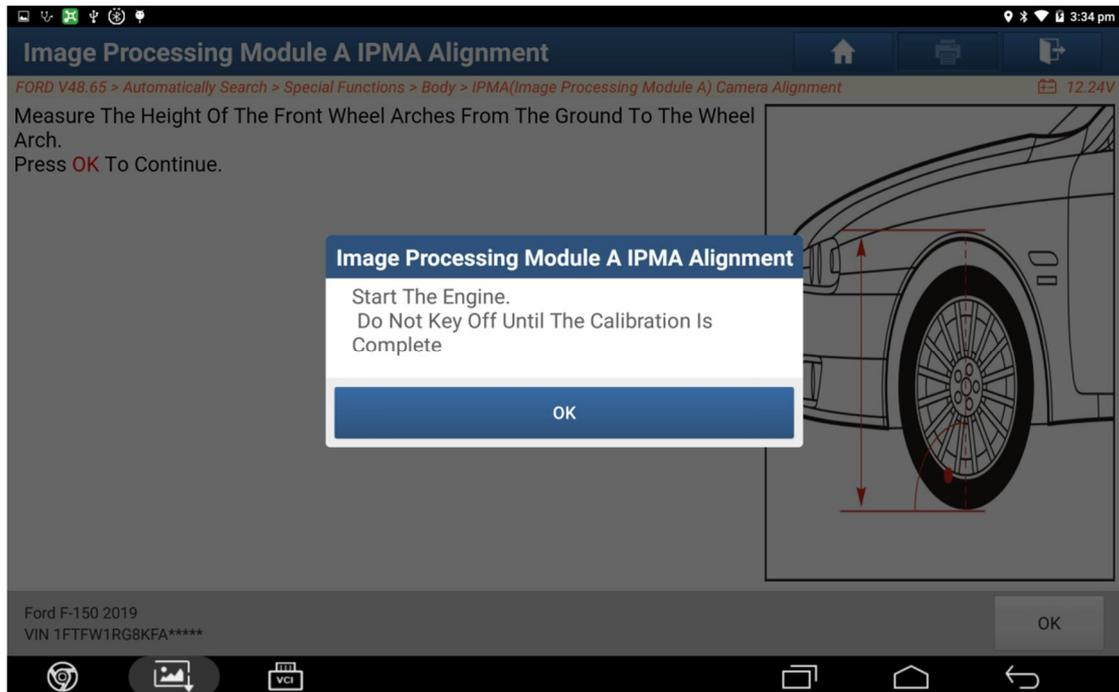

Figure 15
13. Prompt to start engine, do not switch ignition OFF before the calibration is completed, **vehicles with intelligent Start/Stop function need to manually turn off the Start/Stop function** (Figure 15).